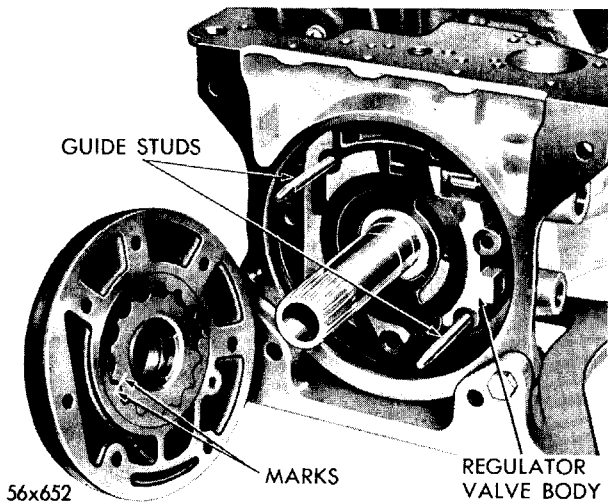

Fig. 79—Installing Front Oil Pump Assembly
(1) With inner and outer seals lubricated and pump rotors in position in housing (Fig. 79) (counterbore in pinion gear facing down as identified when removed), place oil pump housing over studs and slide into position.
(2) Start the bolts and aluminum sealing washers and draw down evenly until housing is seated into